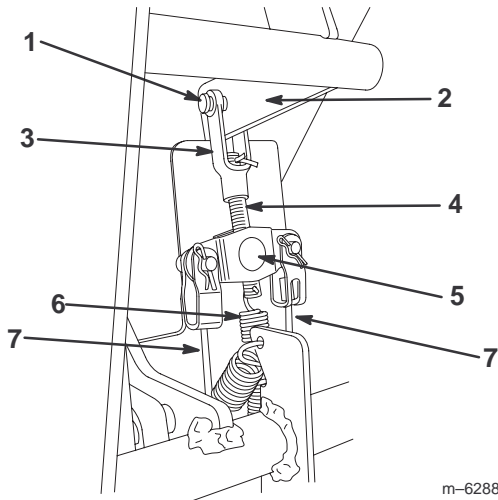

Figure 31
2. Check the brake cables at the brake equalizer (located under the dash) and determine approximately how far up the brake rod the equalizer needs to travel so that there is no slack in the cables (Fig. 31).
3. Remove the hairpin cotter and clevis pins securing the brake rod clevis (Fig. 31).
4. Disconnect the spring from the end of the brake rod (Fig. 31).
6. Thread the brake rod in or out of the brake equalizer as needed to remove the slack from the brake cables (Fig. 31). Do not overtighten the cables.
7. Install the spring into the hole in the brake rod (Fig. 31).
8. Connect the clevis on the brake rod to the brake lever using the clevis pin and hairpin cotter removed previously (Fig. 31).